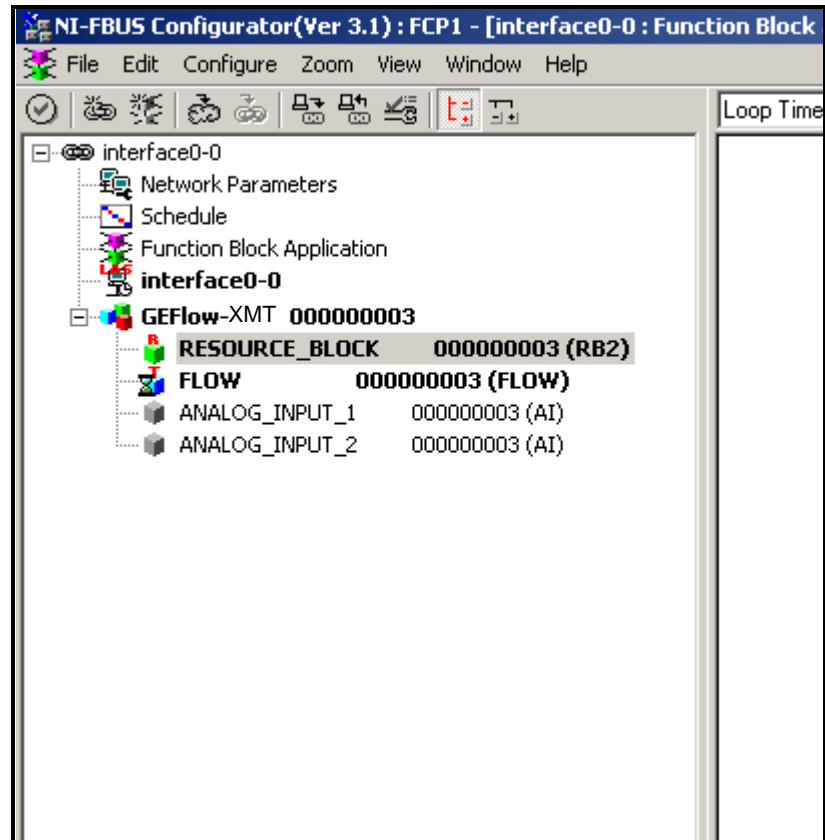

Figure E-1: Configuration Utility Setup Example
Figure E-1 below shows the Configuration Utility with a flowmeter on the network (GE Flow-XMT).
1. Double click on the AI block for which you wish to set the units (ANALOG_INPUT_1 or ANALOG_INPUT_2 in the tree under GEFLOW-XMT; see Figure E-1 on page E-2).
1. Double click on the FLOW transducer block (in the tree under GEFLOW-XMT; see Figure E-1 on page E-2).